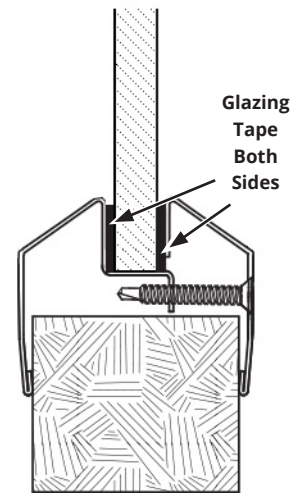

FIG. 1
- a.) UL 10B, UL10C - apply 1/16" glazing tape (or other required) to the face of the glass on both sides. FIG 1.